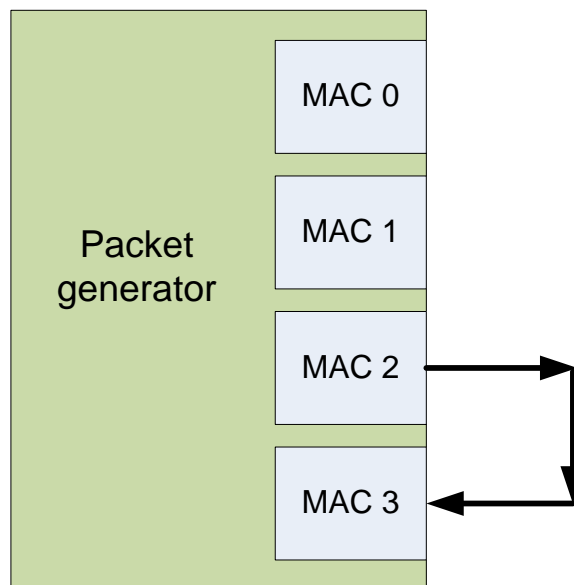
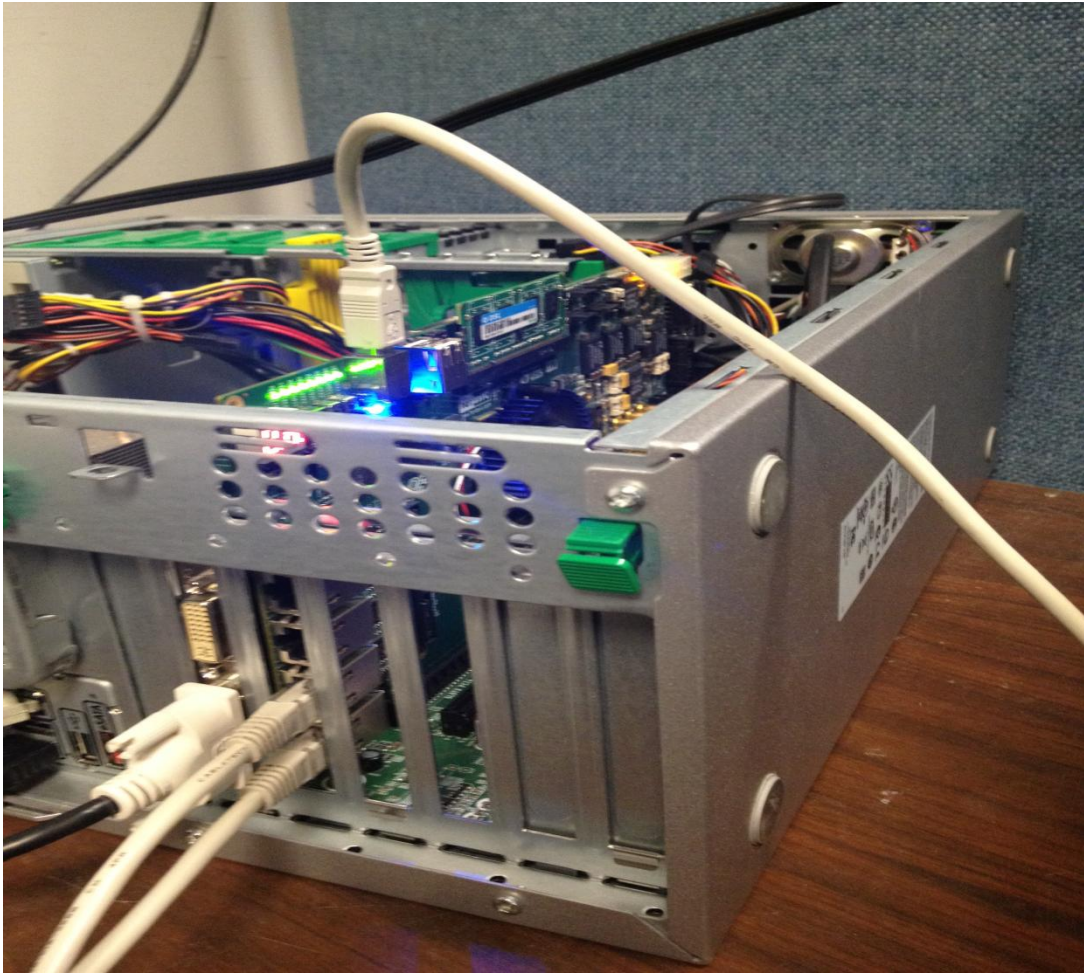
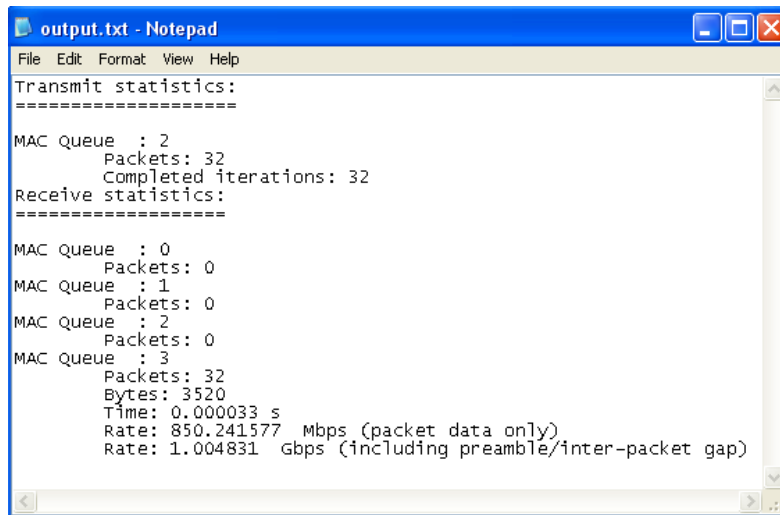

Figure 8: Packet Generator Test Setup
Figure 9: Packet Generator Experimental Setup
Figure 11: Sample packet capture at line rate (1Gbps)
1. Install the DE4 board in the PCIe slot and connect the Ethernet cable in loopback formation as shown in Figure 8
A pcap file is provided `{pcie_config/x86/msdev_2010/test.pcap}` for testing. The packet generator is configured in loopback according to Figure 8. The experimental setup is shown in Figure 9.
When the topology as shown in Figure 8 is used, the forwarded packets are captured at queue 3 of the DE4 NetFPGA packet generator. The packet capture statistics is observed in `pcie_config/x86/msdev_2010/output.txt` as shown in Figure 11.